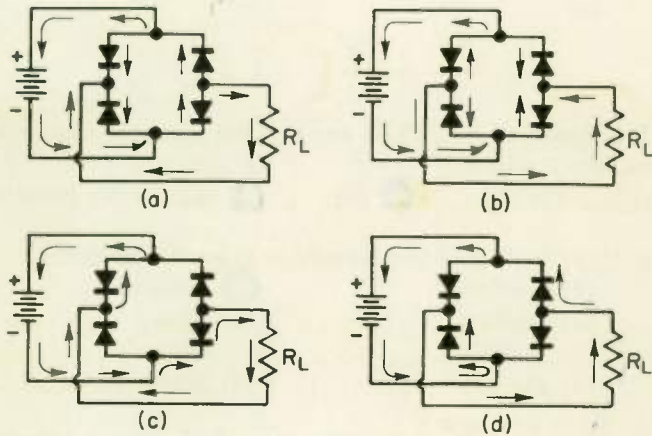

Fig. 47
24. In which diagram of Fig. 47 do the arrows correctly indicate the current path?
- (1) (a)
- (2) (b)
- (3) (c)
- (4) (d)
25. Suppose the polarity of the battery in Fig. 47 is to be reversed to that shown. Trace the current path to determine the current direction through R_L .